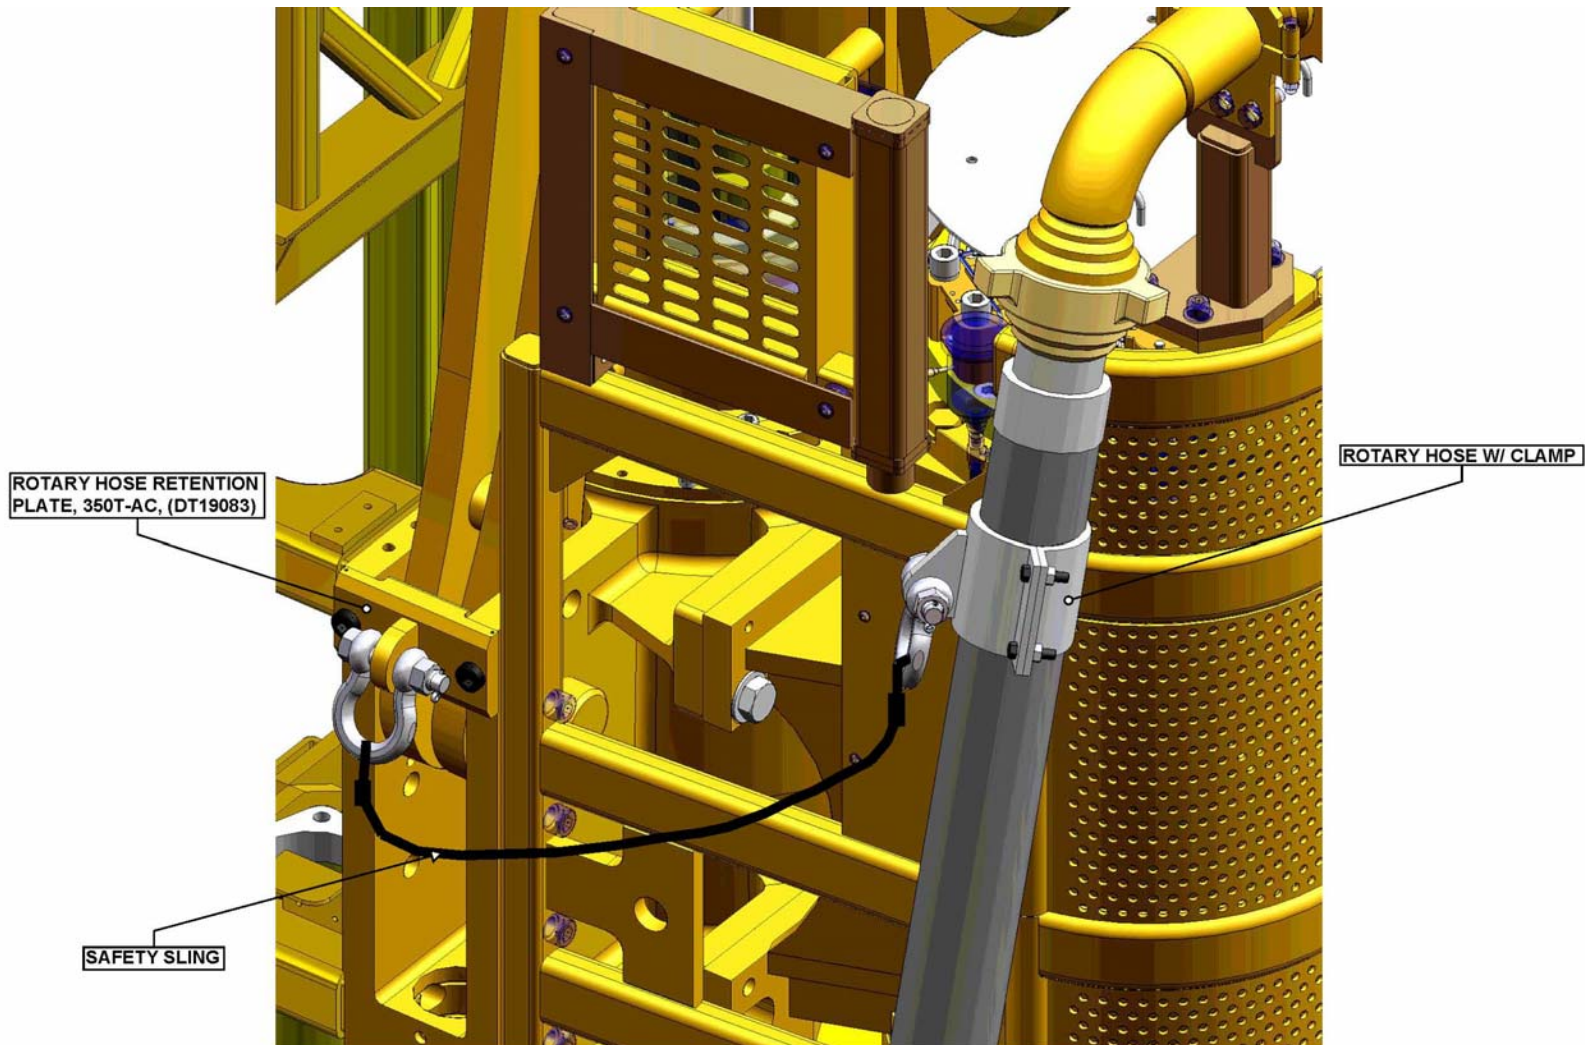

Fig. 2
1. Refer to included drawing (DT19084) for Top Drive Housing Modification to drill and tap (2) holes at specified dimensional location in drawing. See Fig. 2.
2. After holes are tapped, install Rotary Hose Retention Plate (DT19083) with (2) 1"-8UNC x 2" (SH-1000NC-0200-W) capscrews and (2) Nordloc washers (LW-1000-NL).
3. Torque the (2) 1"-8UNC x 2" (SH-1000NC-0200-W) capscrews to 848 ft-lbs and safety wire with (M21-2000-010) and (M19-3006-010).
5. Install the other of sling to shackle and attach on the Rotary Hose Clamp. Tie-wrap sling to eliminate excess slack with (E03-2000-010) Final assembly should be as shown in Fig 2.